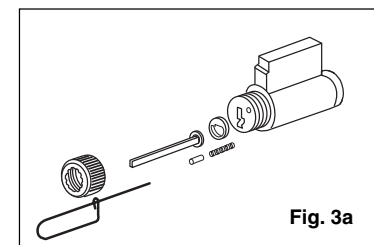

Fig. 3a
- Unscrew cap. Take pin, spring and tailpiece from cylinder and set aside. (Fig. 3a)